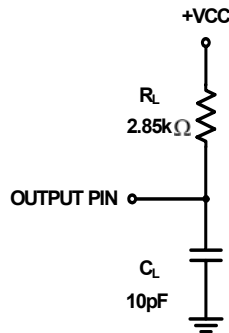

FIGURE 4. EQUIVALENT LOAD CIRCUIT
11. During characterization,  $t_{DIS}$  is measured from the release point with a 10pF load (see Figure 4) and the equivalent timing using the ADS1286 loading (3k $\Omega$ , 100pF) is calculated.